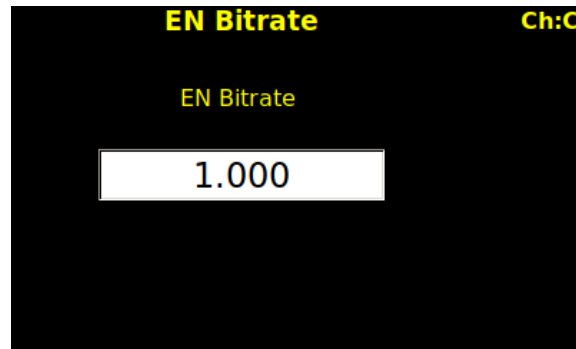

Figure 365: EVTM Embedded Transmitter EN Bit Rate Selection
- EN Bitrate - Scroll to the EN Bitrate option to select the embedded transmitter bit rate. Click on EN Bitrate to display the selection screen, as shown in Figure 365. Type the new bit rate, in Mbps, then press the Enter key on the front panel keypad.